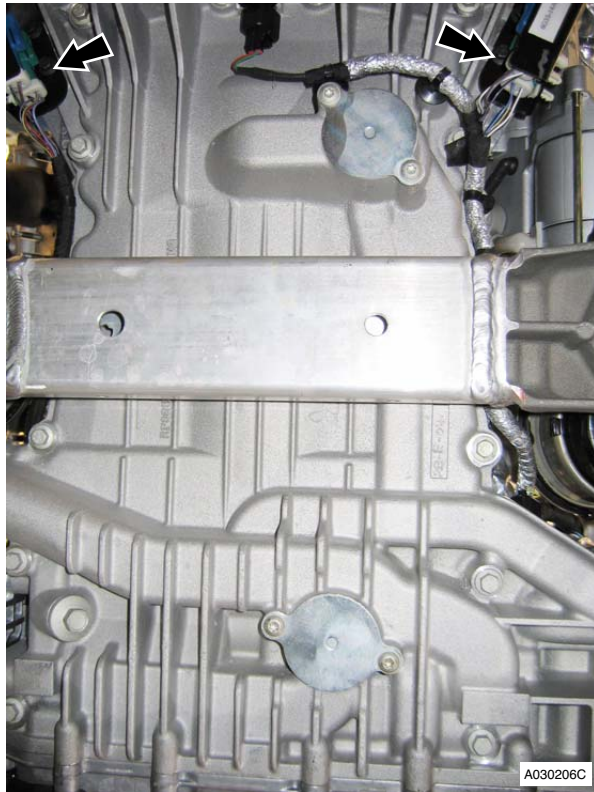

Figure 7
- Press out alternator mounting bushes (x2) from sump (refer to Figure 7).